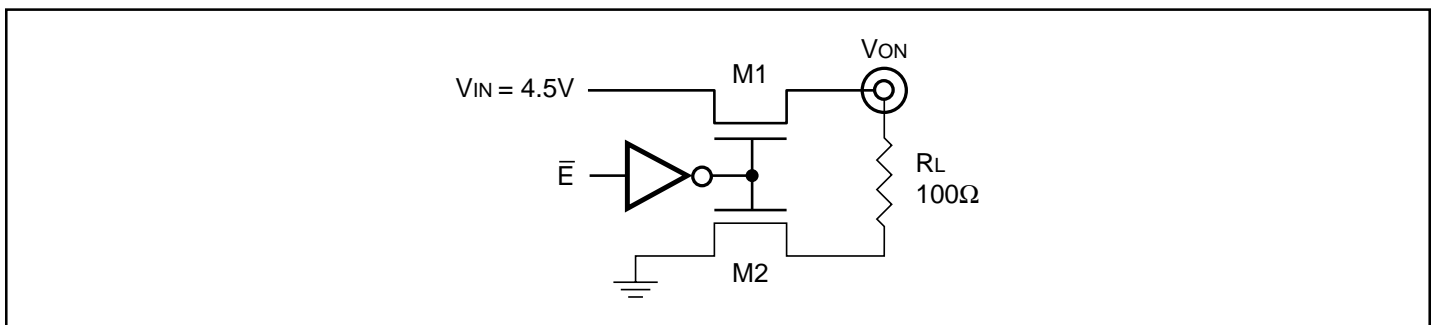

Figure 10. Switch ON Voltage Test Circuit
- The expected AC V_{ON} value is about 125 mV higher than the DC V_{ON} value using the similar test circuit in Figure 10 with V_{IN} swing from 0.0V to 4.5V at 10 MHz sine wave.
- The value of R_{ON} of M1 is calculated with the equivalent mathematical formula of the test circuit in Figure 10.